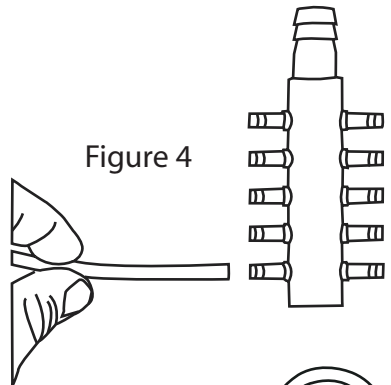

Figure 4
6. Attach your airline to the Multiple Outlet adaptor. Figure 4